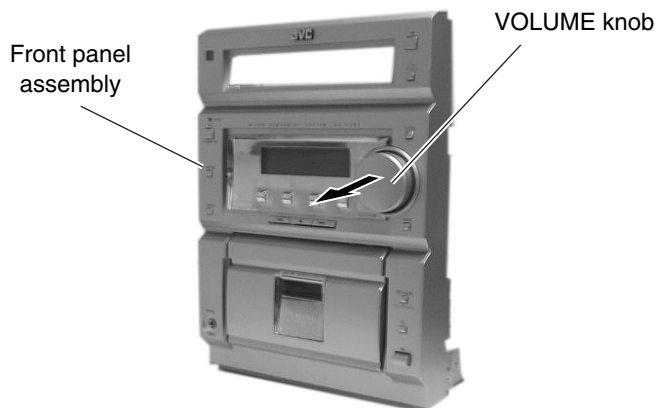

Fig. 23
■ **Removing the display board / switch board** (See Fig. 23 & 24)